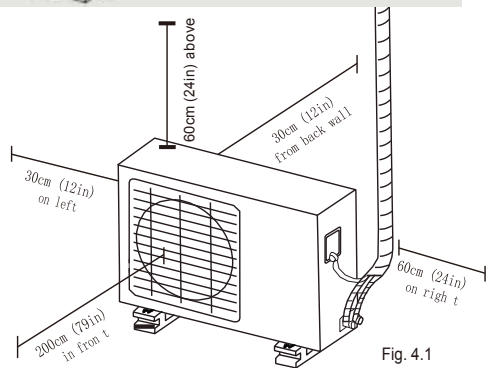

Fig. 4.1
- ☐ Meets all spatial requirements shown in Installation Space Requirements (Fig. 4.1)